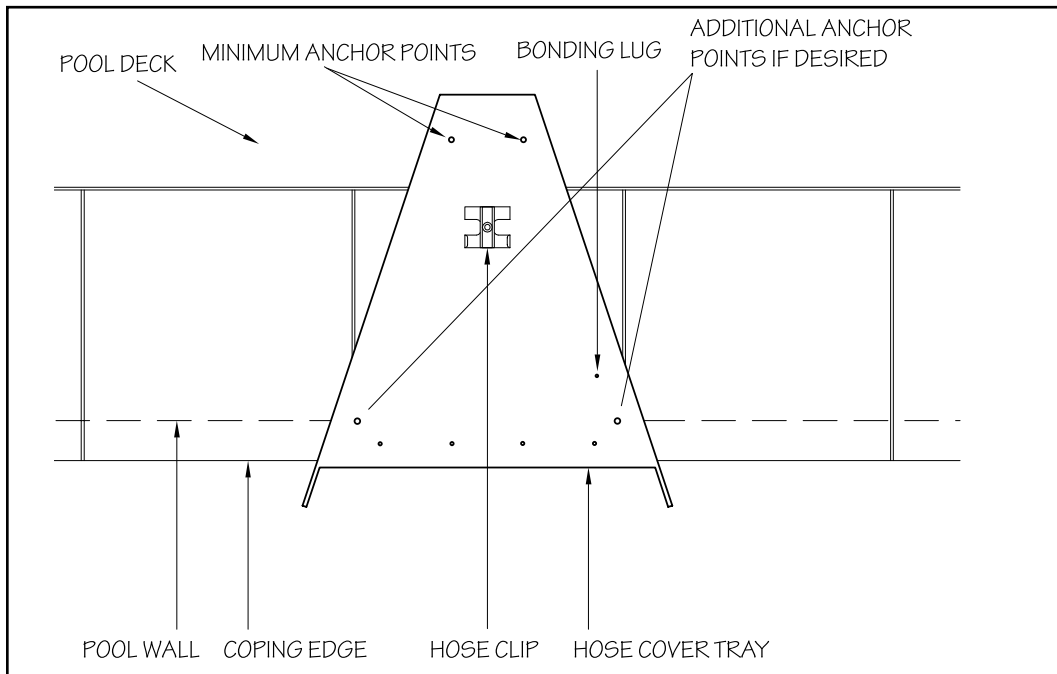

Fig. 8.2
- 8.3 Use the provided 5/32" (4mm) drill bit to drill a hole into the deck approximately 2" (50,8mm) deep through the two holes in the rear of the tray. These holes must be drilled into solid decking material. While these 2 screws are enough to secure the Fastlane Pro to the pool wall, extra anchor screws have been provided for additional anchor points if desired (Fig 8.2).
9.4 Run the hydraulic hoses up and out of the pool and into the hose cover tray. Place the hoses under the hose clip (see Fig 8.2). Pull any excess hose out of the pool and out of the hose cover tray. Once the hoses are in the hose clip, secure the clip to the tray.